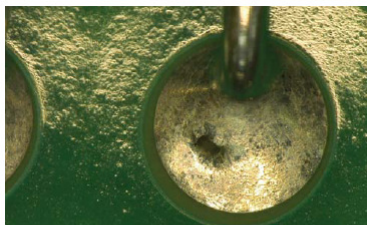

Figure 5-8
- Blowholes, Figures 5-8,9, pinholes, Figure 5-10, voids, Figures 5-11,12, etc., providing the solder connection meets all other requirements.